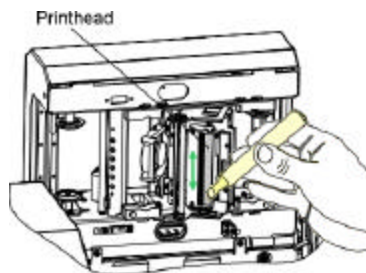

Figure 3-19
3. Use a Printhead Cleaning Pen from the Printer Cleaning Kit to firmly wipe back and forth across the surface of the Printhead. See Figure 3-19.